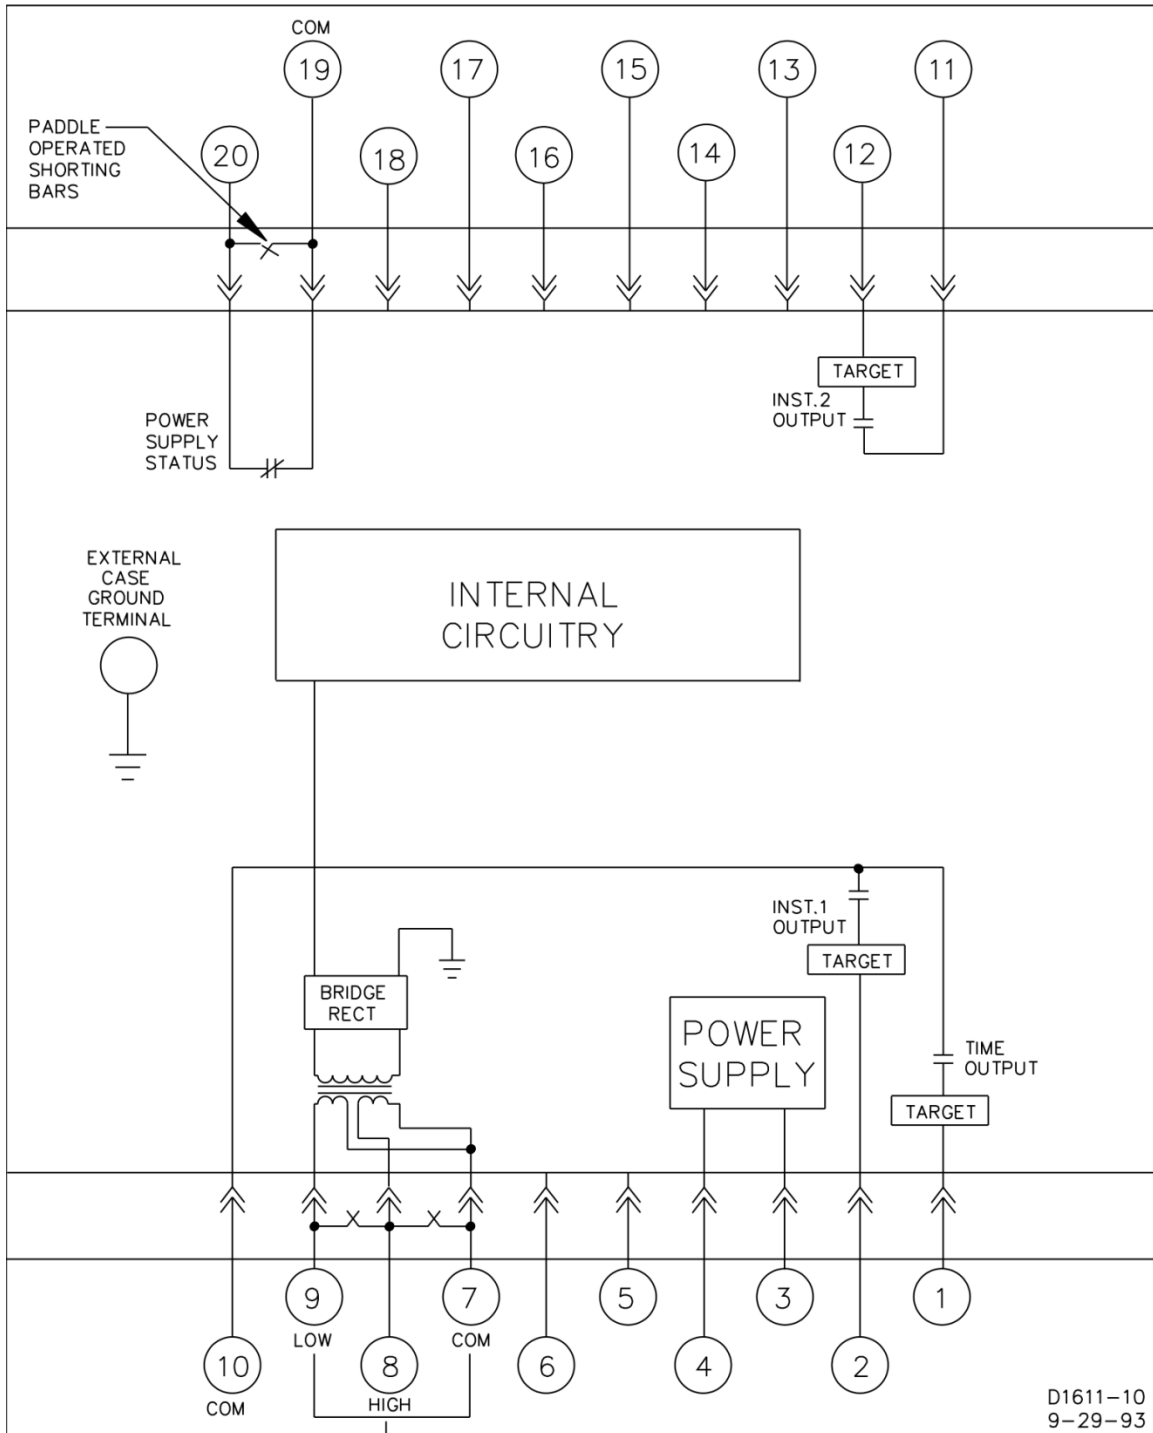

Figure 4-17. Typical Internal Diagram, Sensing Input Type K
- Figure 4-17: Typical Internal Diagram, Sensing Input Type K